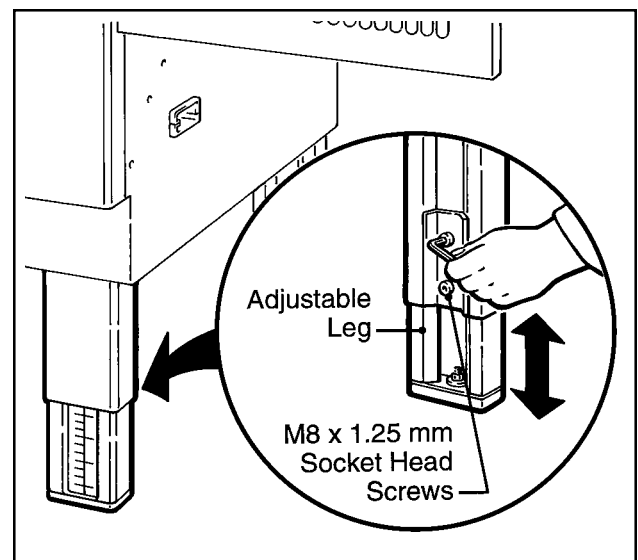

**Figure 2-3 – Conveyor Systems**
- e. Refer to Figure 2-3 for suggested conveyor types that can be used with the case sealer.